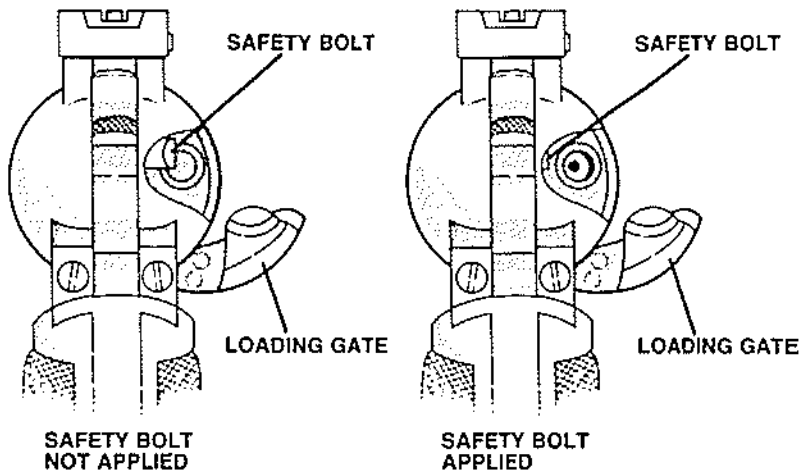

FIGURE 6-SAFETY BOLT
**SAFETY BOLT**—A manually operated safety bolt is located in the frame of the New Frontier revolver. You apply the safety bolt by opening the loading gate and pushing the safety bolt into the frame. See Figure 6. When you apply the safety bolt by pushing it into the frame, it becomes a barrier between the hammer and firing pin to prevent the hammer from striking the firing pin. To be protected by this additional safety feature when handling and carrying the revolver, you must apply the safety bolt with the hammer in the safety position. You might feel some resistance when applying the safety bolt with the hammer in the safety position. This is normal and can be avoided by pulling the hammer back just enough for you to push the safety bolt easily into the frame. The safety bolt must also be applied before the revolver can be loaded and unloaded.